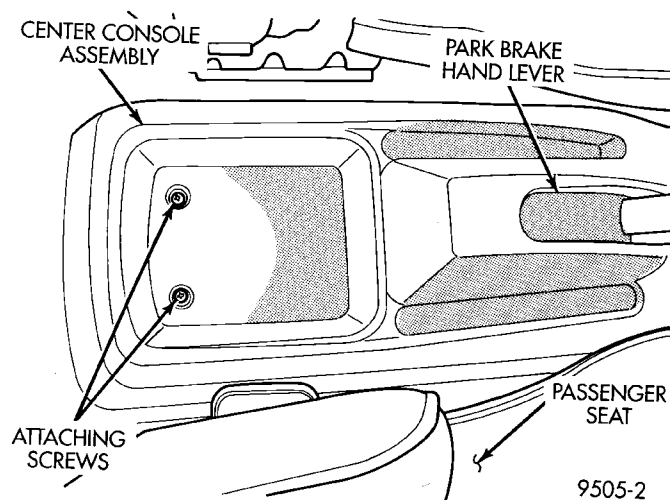
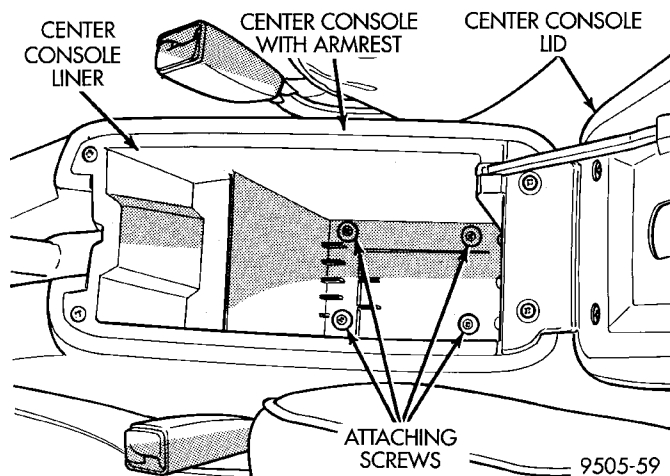

Fig. 5 Attaching Screws At Rear Of Center Console With/Without Arm Rest
Fig. 6 Attaching Screws At Rear Of Center Console With Arm Rest
(1) Disconnect and isolate the battery negative cable.
(2) Manual transaxle only, remove shifter knob fastener and remove shifter knob.
(3) Remove screws attaching rear of center console assembly to console bracket (Fig. 5) or (Fig. 6).